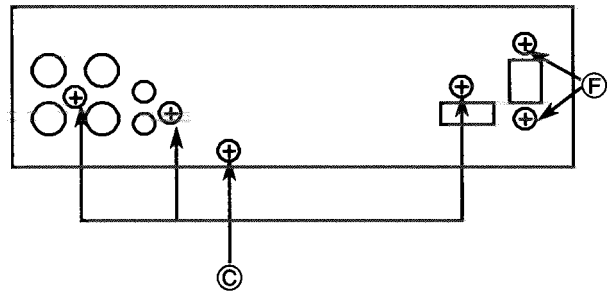

Fig.2 Rear view
2. Remove the 4 screws (C). (Fig.2)